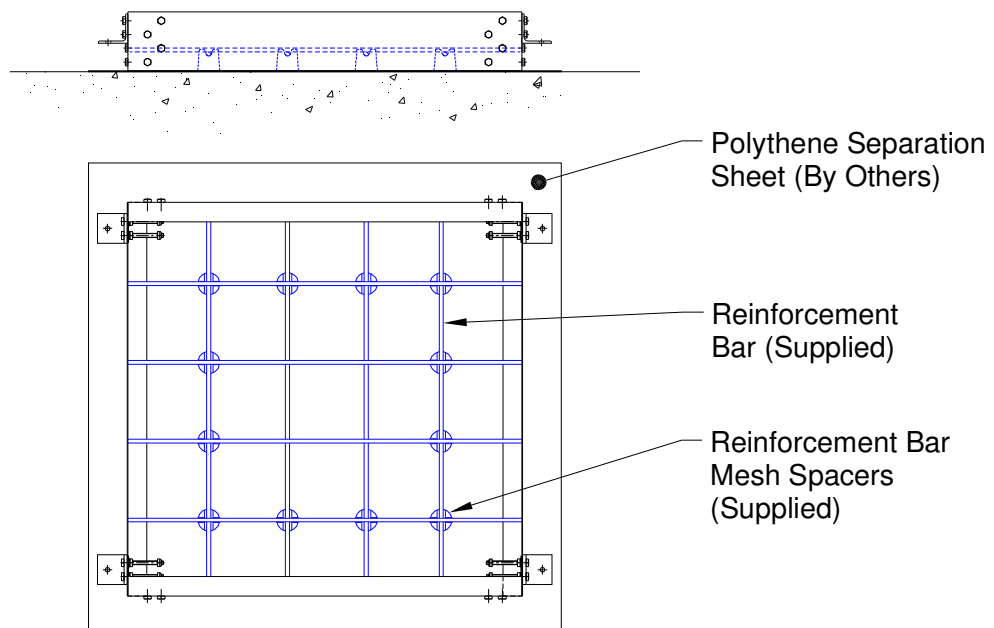

Figure 3
- 4) Once the sides of frame have been assembled the mesh spacers can be positioned inside to support the reinforcement bar intersections at approx 200 mm centres (See Figure 3).